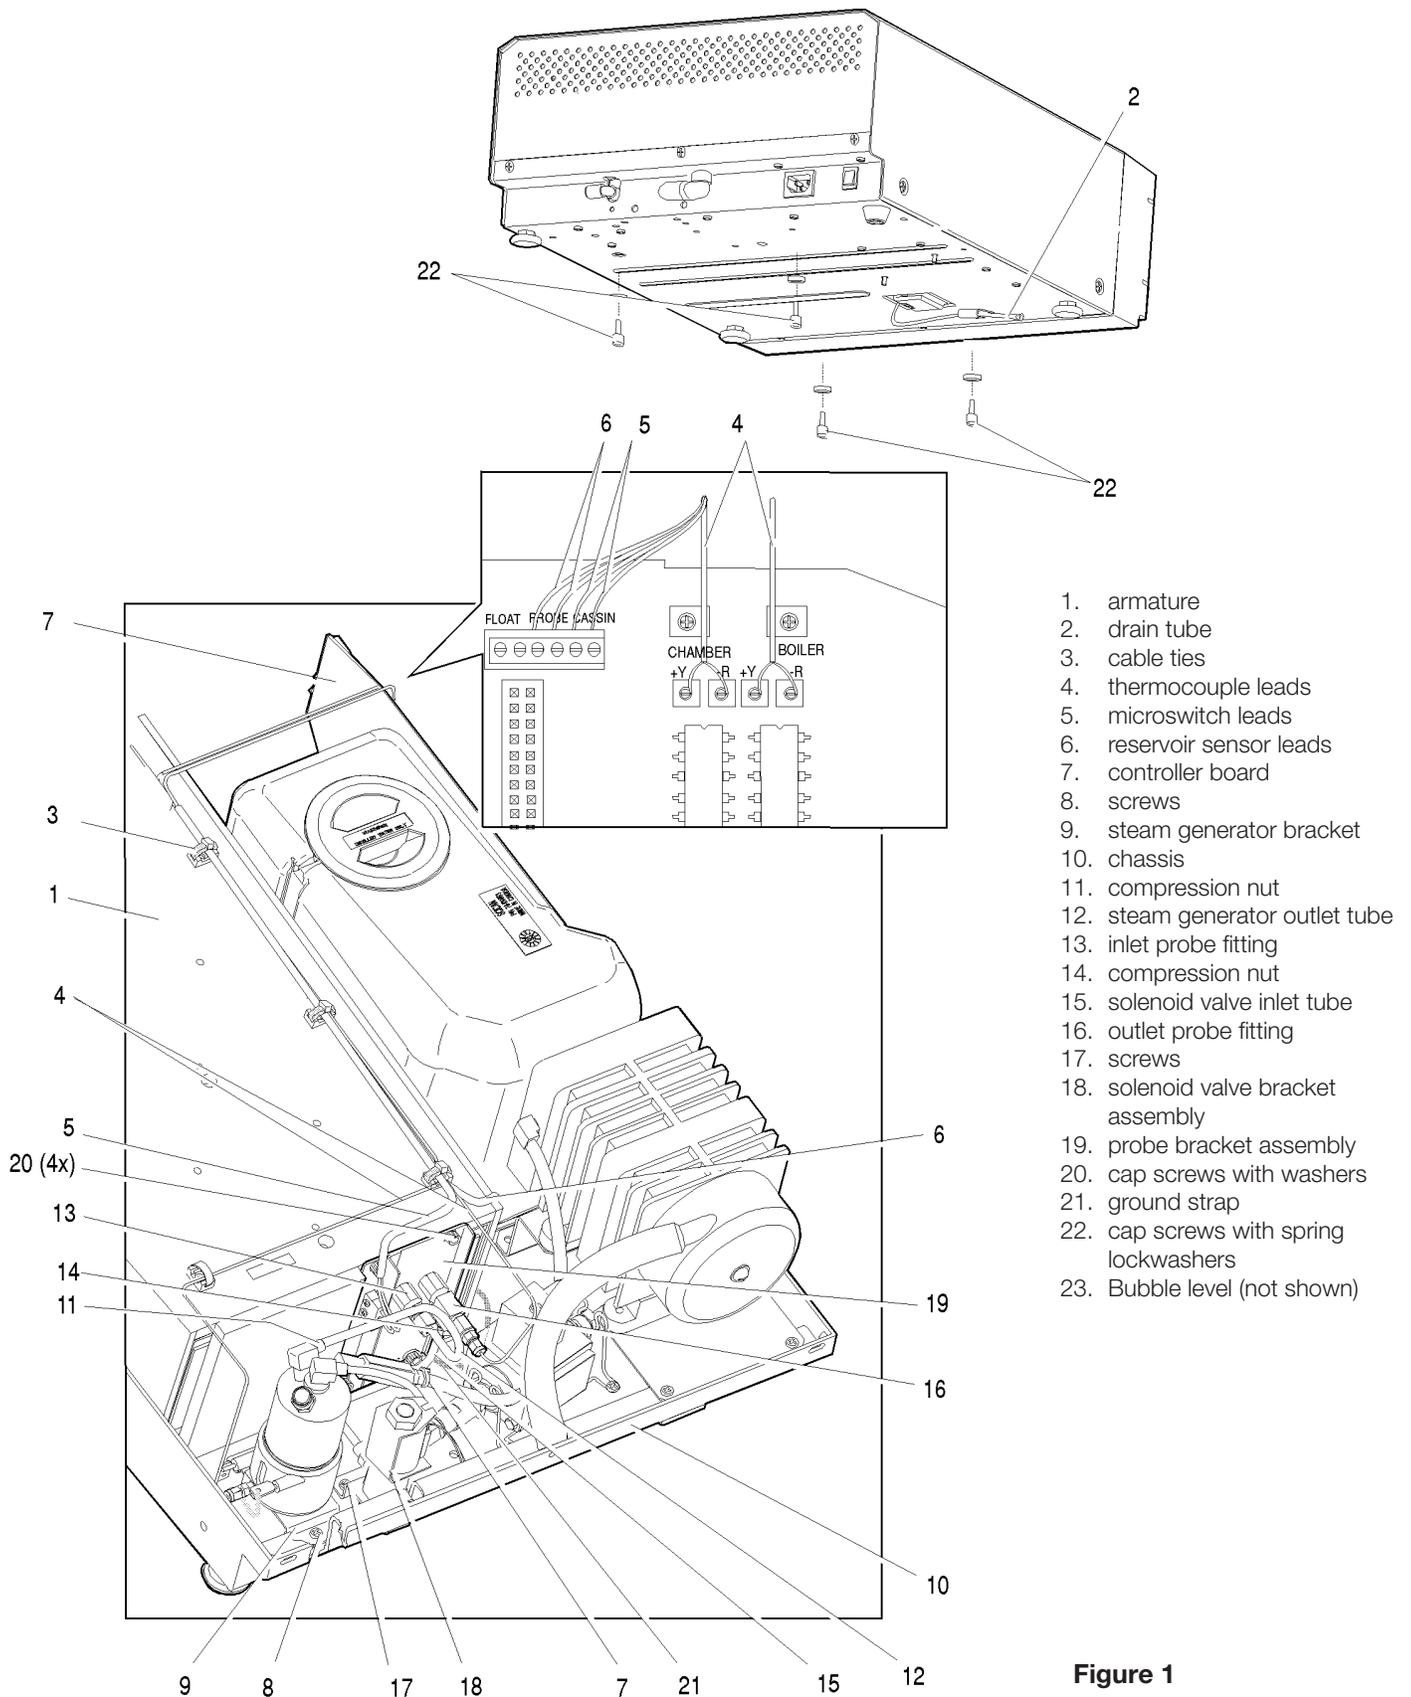

Figure 1
To remove the armature (1), proceed as follows (see Figure 1):
To reinstall the armature (1), proceed as follows (see Figure 1):
1. Align the armature (1) with the chassis (13). Tilt the unit sideways with the reservoir and PCB facing upwards, insert and tighten the four cap screws with spring lockwashers (22) retained from the removal procedure. Ensure that the armature drain tube exits through the hole in the chassis.